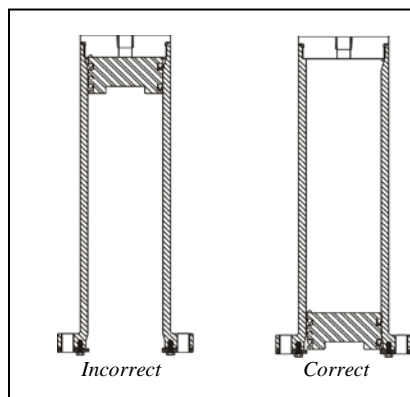

Figure 2
2.2.6 Make sure the cylinder's piston is pushed to the bottom of the cylinder (see Figure 2).
- 2.6.2 Make sure the cylinder's piston is pushed to the bottom of the cylinder (see Figure 2).